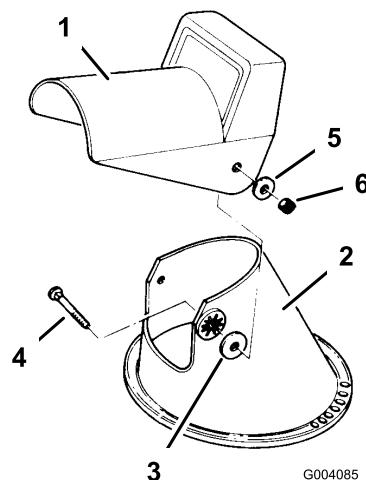

Figure 5
1. Position the chute deflector onto the discharge chute and align the mounting holes (Figure 5).
2. Insert a rubber washer between the chute deflector and the discharge chute on each side while maintaining the hole alignment (Figure 5).
Note: Ensure that the square shoulders on the carriage bolts align with the inside square on the discharge chute. Position the metal washers to the outside of the chute deflector as shown in Figure 5. Do not overtighten the bolts.